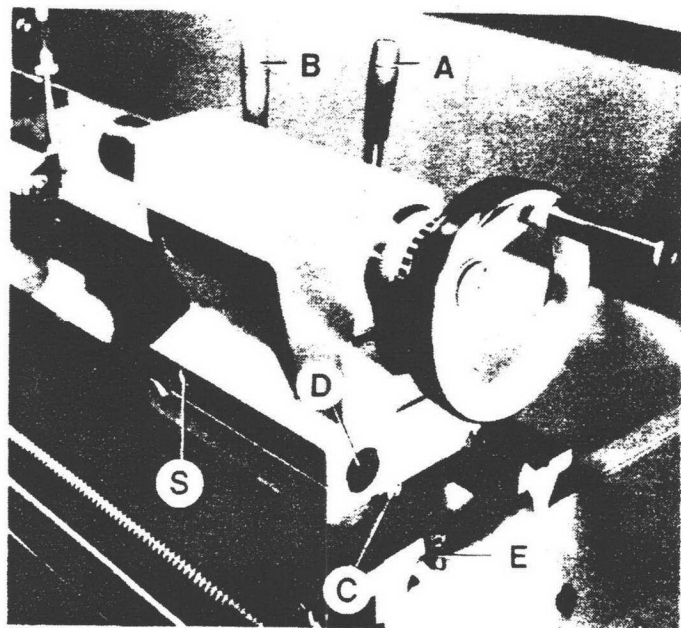

Fig. 16
TAILSTOCK – Fig. 16
Can be set over for the production of shallow tapers, or for re-alignment by adjustment of the screws (S) at each side of the base – see Fig. 16. Release the clamping lever and loosen screws (C) beneath the tailstock which hold base to main casting, then retighten and check after adjustment of set-over.
To correct error, release the tailstock clamp lever (A) and adjust the two screws (S) shown in Fig. 16 after releasing the screws beneath the tailstock base.